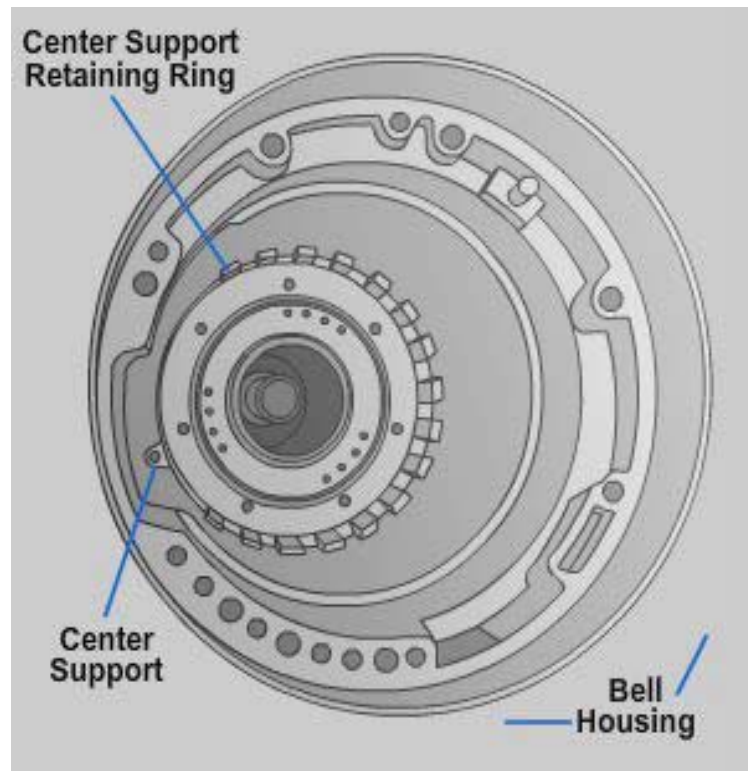

Figure 7-18 - Transmission center support.
13. Some transmissions have a center support (Figure 7-18). It may be retained by one or two case bolts located either inside or outside the case. These must be removed before you can remove the center support and the rear clutches and gearsets.